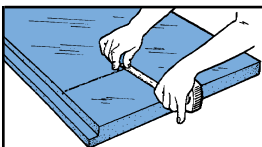

Figure 1
- To measure, mark board by dragging measuring tape hook along the surface of a board while holding the other end of the tape at the desired measurement (Figure 1).